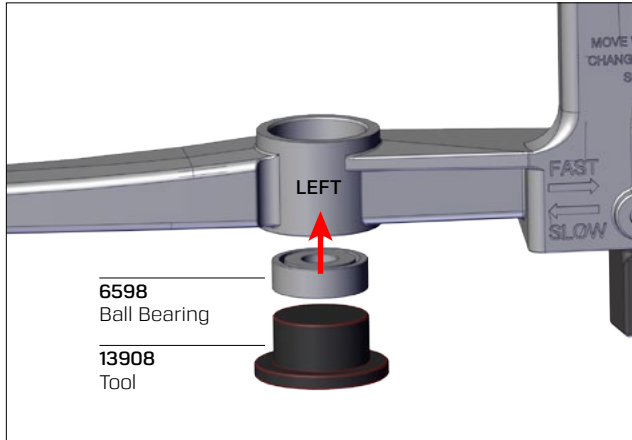

Fig. 12.
- A. From the outer side of the LEFT drive arm bearing hub, insert the **#6598** ball bearing followed by the **#13908** tool as shown in Fig. 12.